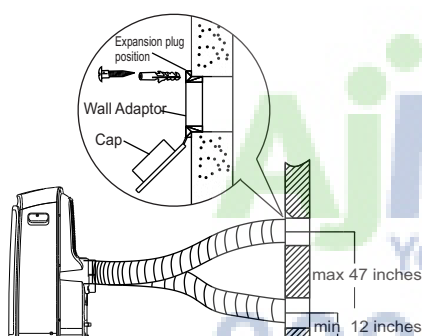

Fig. 18
1. Prepare a hole in the wall and install the Wall Adaptor to the opening (from outside). Secure with 4 expansion plugs and screws. (Fig. 18)